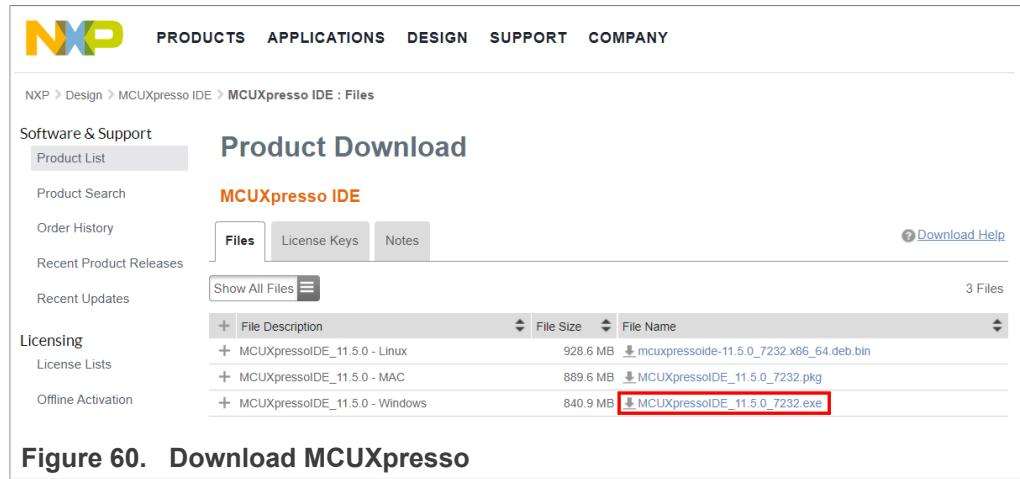

Figure 60. Download MCUXpresso
- Select your MCUXpresso product version and click on the corresponding **File Name** to start the download as shown in Figure 60: